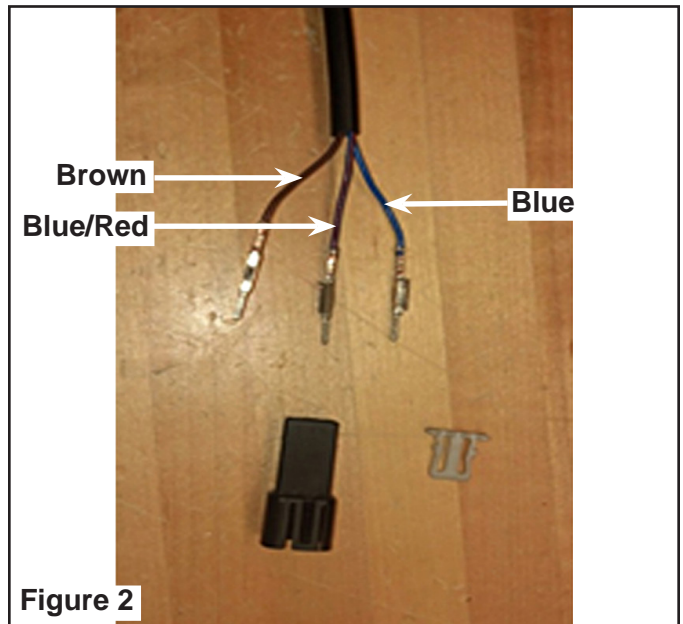

Figure 2
- After pulling the wires through, plug the wires into their respective holes in the supplied connector and install the gray clip into the connector. Figure 2.